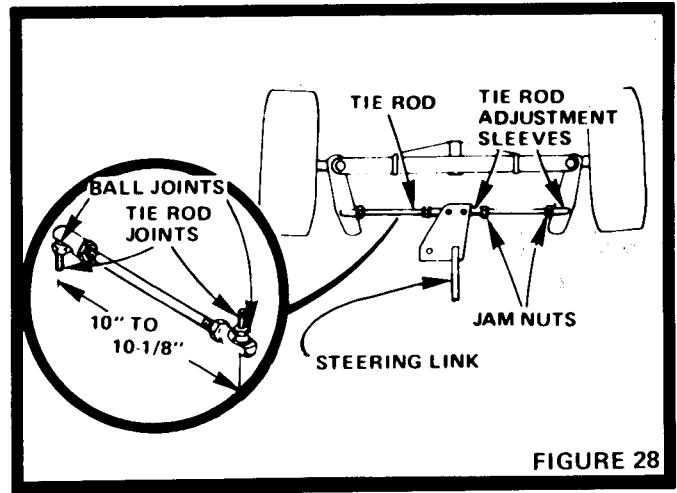

FIGURE 28
- Move Rubber Boots to expose Ball Joints on Tie Rods and Steering Link (Fig.28).
- Loosen Jam Nuts (Fig. 28) at each end of Tie Rod Adjustment Sleeves.